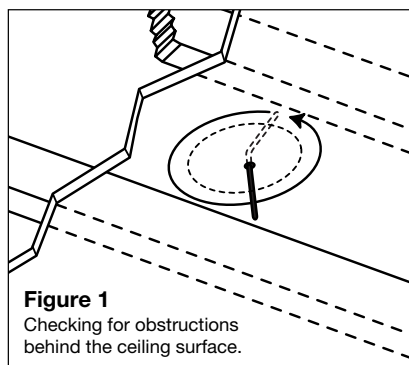

Figure 1
1. Cut a foot-long piece of coat hanger. Bend the wire (creating a right angle) leaving 4-3/4" (5-3/8" for the CM8.5SI) at one end (this allows for the extra width of the mounting dogs). Poke the "L-shaped" wire into the pilot hole and turn it in a complete circle and move it into the ceiling cavity to make sure you have approximately 4" of depth. If the coat hanger movement is obstructed by anything, fill the hole(s) with spackle and try another location (**See Figure 1**).